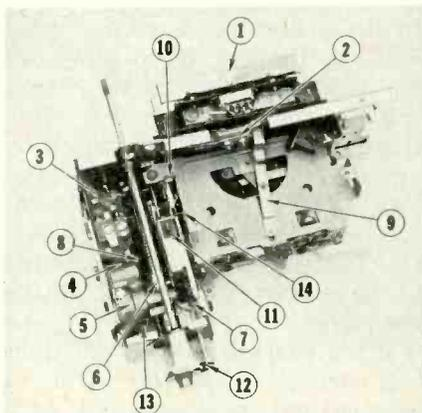

Fig. 7—Governor gear train mechanism. (From "Automobile Electronics Servicing Guide", by permission of Howard W. Sams Co.)
When the signal-seeking actuator ("Wonder Bar") is depressed, it closes the signal-seeking START switch (item 2, Fig. 6) and several things begin to happen. One is the opening of the clutch on the manual-tuning shaft, and another is the energizing of the control relay (item 3, Fig. 6). A tang (item 4, Fig. 6) attached to the armature of the control relay normally rests against and jams a lightweight paddle wheel inside the governor gear assembly (Fig. 7). The governor assembly contains three gears and a centrifugal drag mechanism which keeps the gear's speed of rotation constant. The governor drive spline rests against a special
First, be sure the tang attached to the armature of control relay K1 is pulling out. Make sure that it is pulling *all the way out* so that the governor assembly (Fig. 7) is free to operate. If it is not pulling out at all, check for either a defective START switch (operated directly by "Wonder Bar") or a defective control relay. *Misadjustment* of the *control relay* also might be the cause.